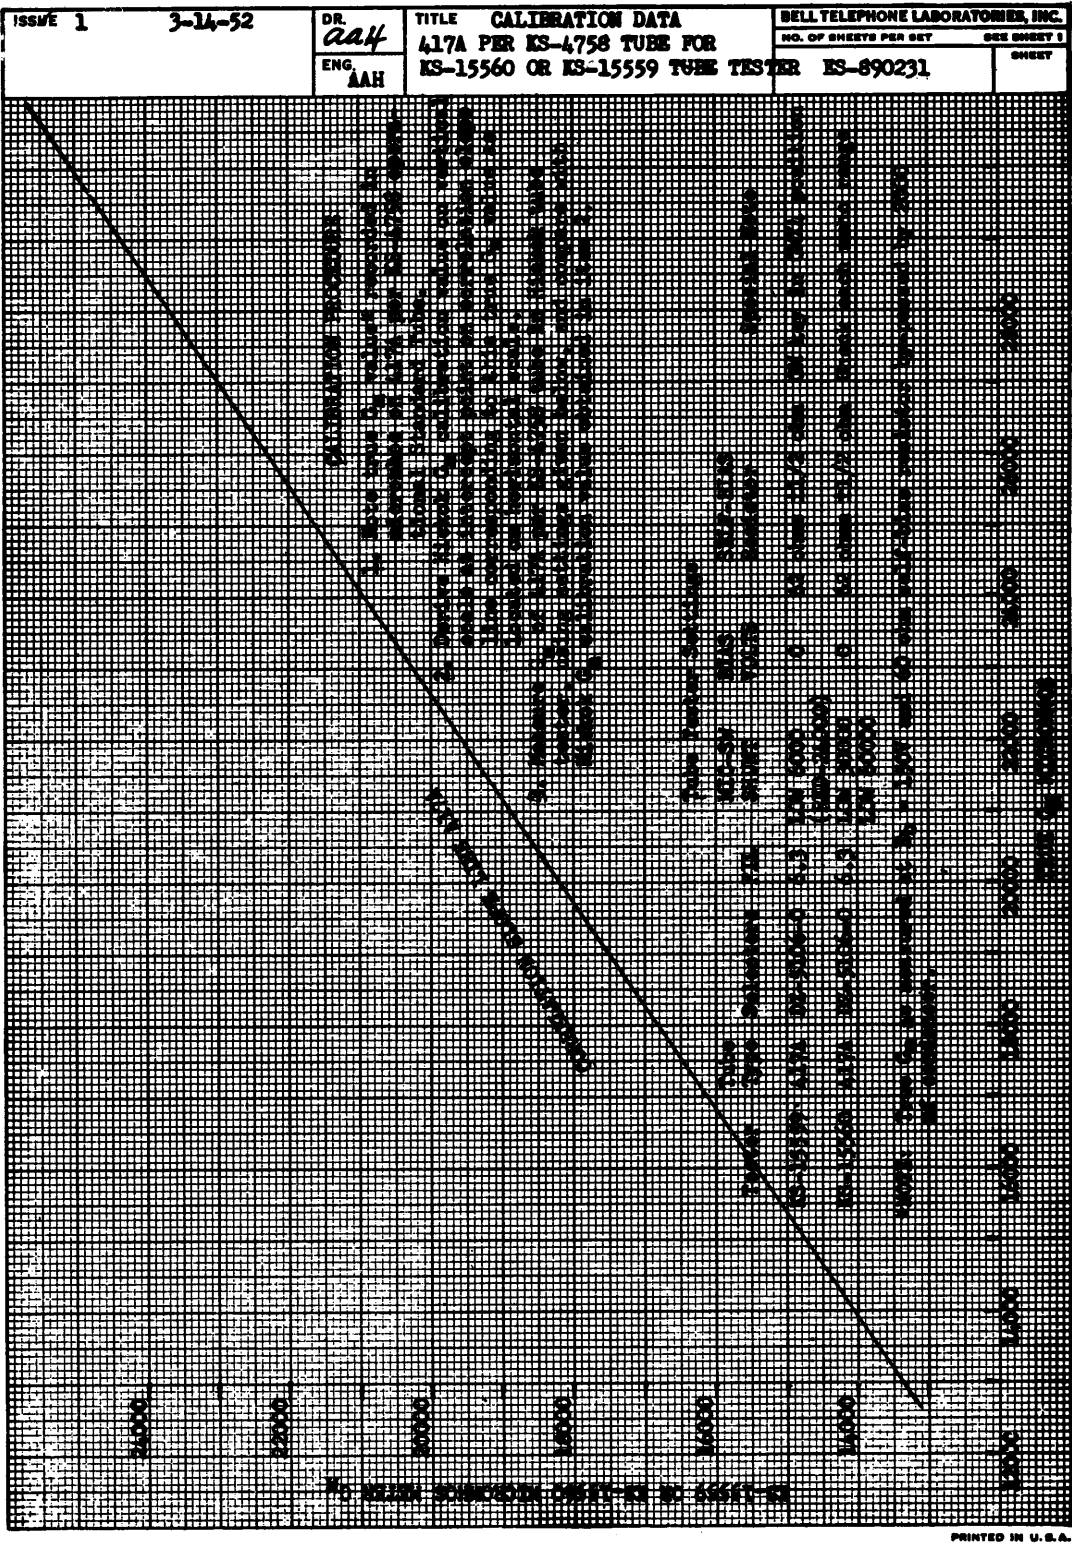

Fig. 9
5.12 LOW SIGNAL 60,000 (1/4-Volt) Grid Signal Test - Self Bias Operation: An operating test is made using a Western Electric Company operational standard 417A tube per KS-4758. This is compared with the Hickok Gm standard value derived from the KS-4758 (417A) calibration chart (Fig. 9) as described thereon. As in the test preceding, this operating test is made in accord with the tube tester settings noted in Fig. 9 (repeated here), with the FIL ACT switch at NORM and the proper SELF BIAS resistor connected.